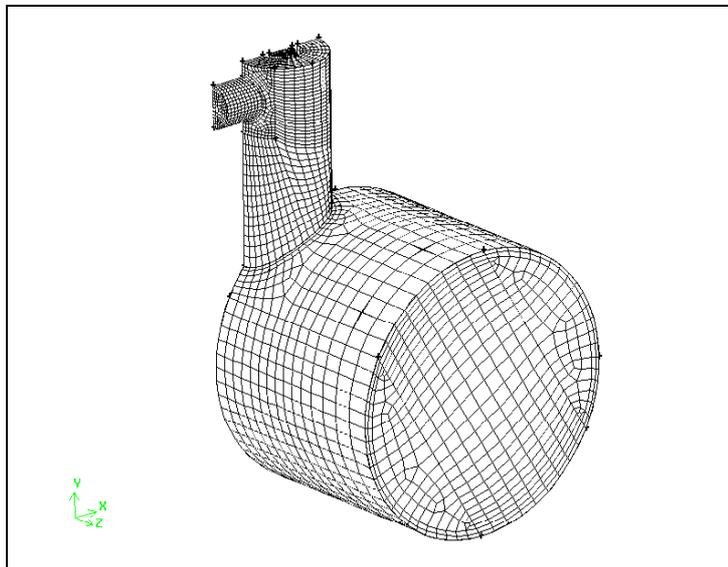

Figure 7-43: Final volume mesh
*at the bottom of the **Global Control** toolpad. Select the **Mesh:On** and **Render:Hidden** options near the bottom of the form, and click **Apply**. The final volume mesh is shown in Figure 7-43.*
(NOTE: The Hidden rendering option has been turned on in Figure 7-43 to make the mesh easier to see.)